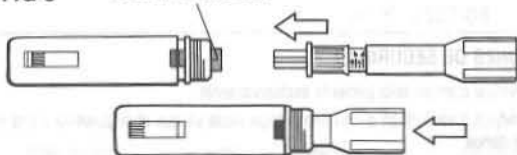

FIG 6
3. Insert the filled syringe inside the syringe housing (Fig 6).